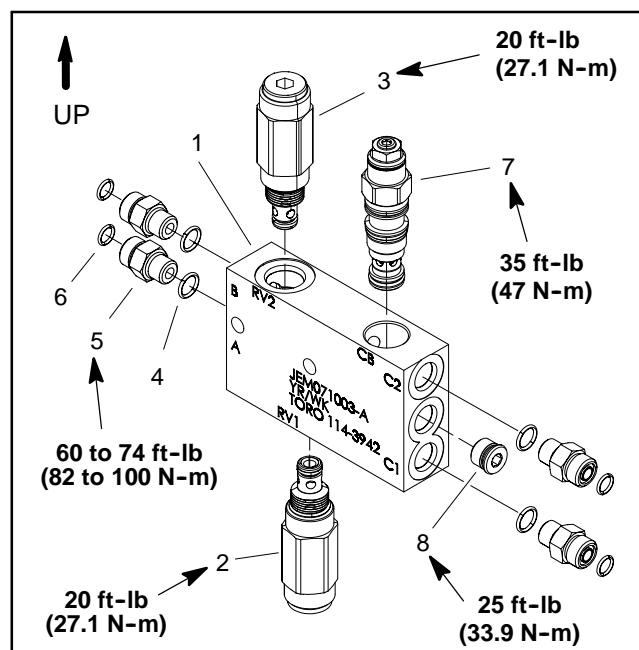

Figure 18
7. Remove two (2) cap screws, flat washers and lock nuts that secure lift relief manifold to machine frame.
9. If necessary, remove hydraulic fittings from manifold (Fig. 18). Discard any removed O-rings.
Manifold Service (Fig. 18)
6. Thread cartridge valves carefully into correct manifold port. The valves should go in easily without binding. Using a deep socket, torque cartridge valves to values identified in Figure 18.